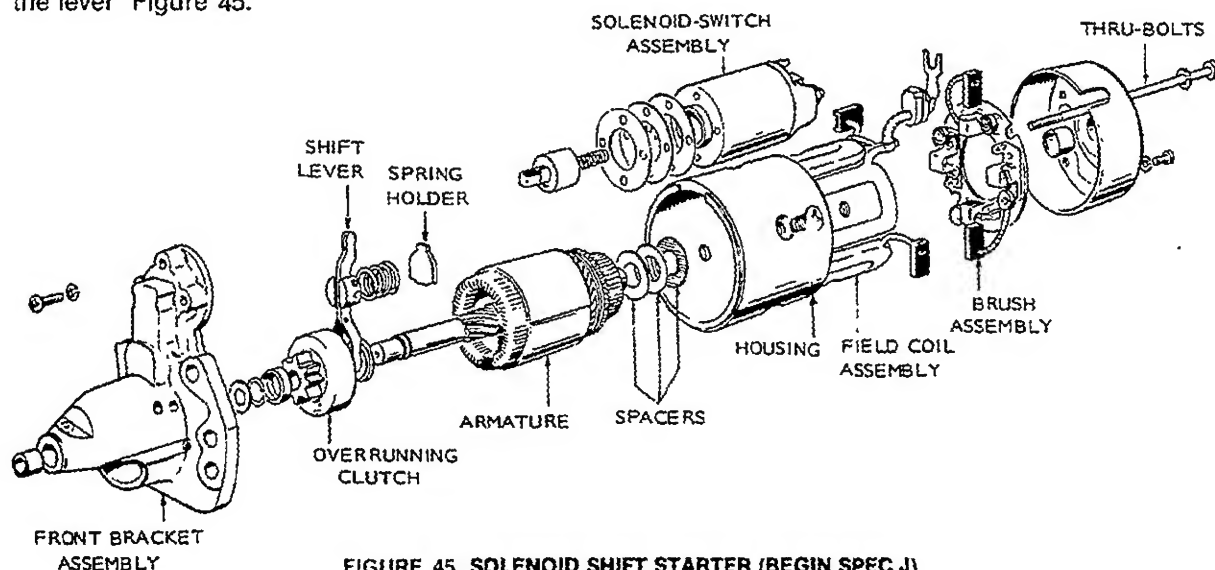

FIGURE 45. SOLENOID SHIFT STARTER (BEGIN SPEC J)
4. **Solenoid Starter Only:** The armature can now be removed from the front bracket. Be careful not to miss the small steel washer used in the end of the armature shaft. Remove the shift lever at the same time the armature is removed. The spring holder, lever springs and retainer can be removed prior to the lever Figure 45.